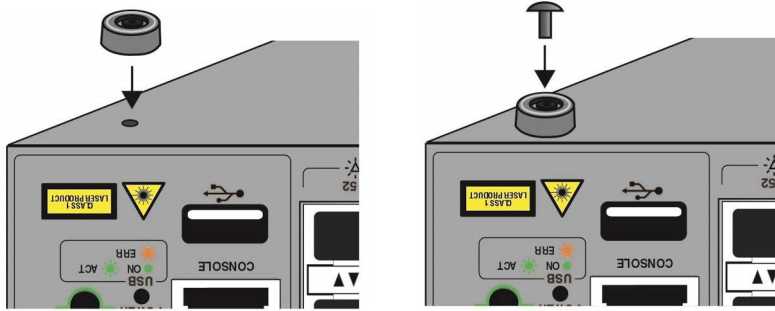

Figure 37. Attaching Bumper Feet on the x330-52GTX Switch
- a. Place a bumper foot over one of the corner holes on the bottom panel of the switch. Refer to Figure 37 on page 83.